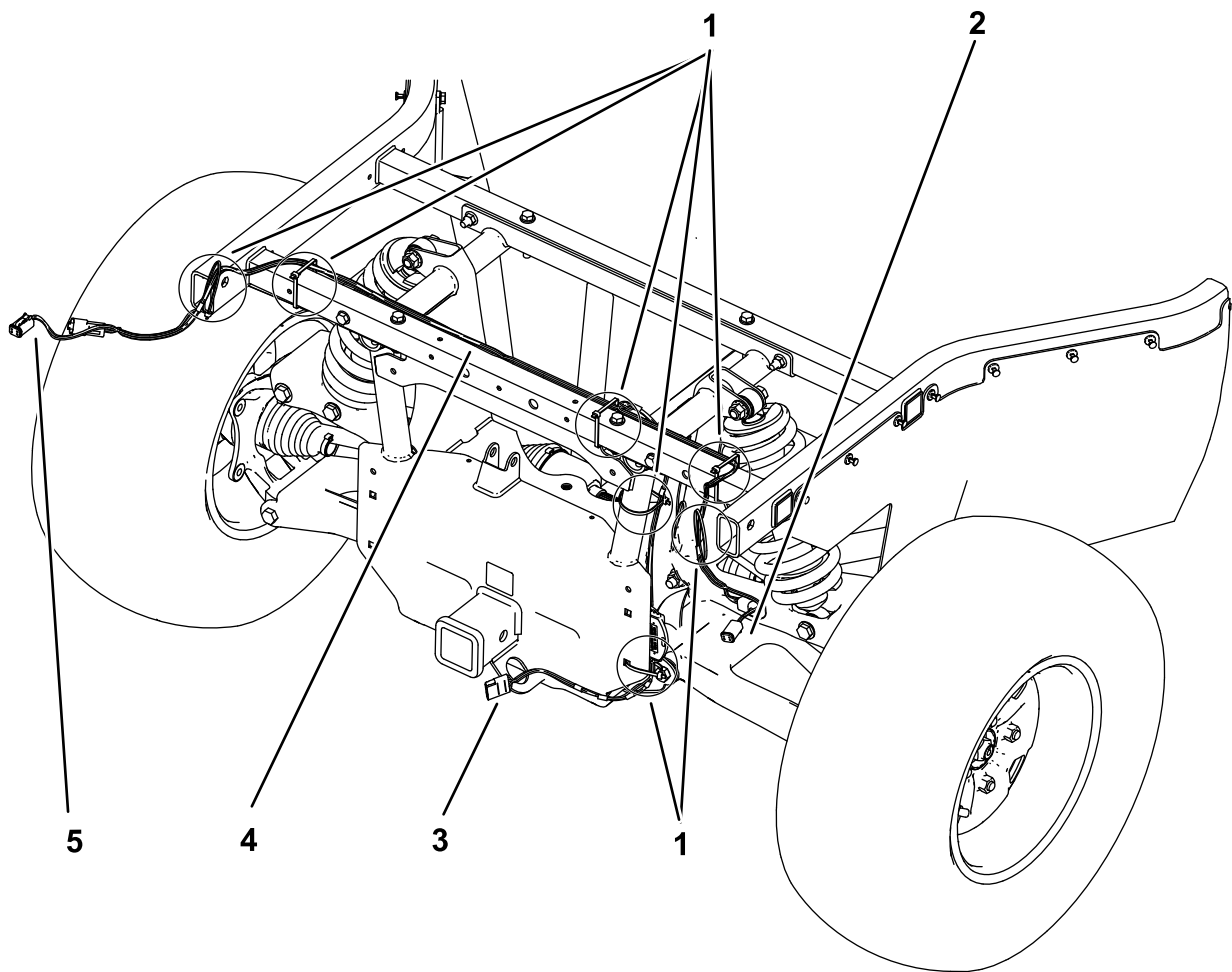

Figure 4
2. Separate the two sides of the harness, routing each along the bottom of the rear frame tube to the openings in the side frame rails as shown in Figure 4
6. Using the 7 cable ties, secure the trailer-light wire harness to the rear tube and the main wiring harness in the locations shown in Figure 4.